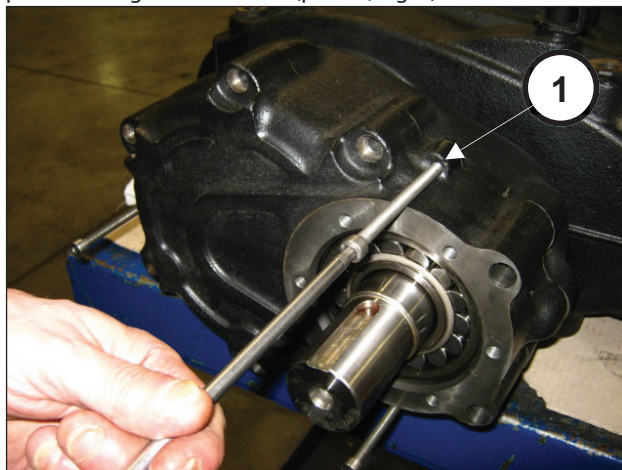
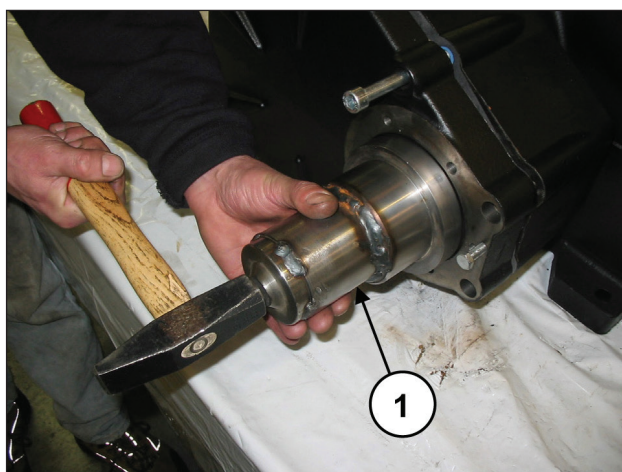

Fig. 8
Fig. 9
Screw in the 3 grub screws (pos. ①, Fig. 8) with the function of extractors and at the same time, using the special tool (code 27887000), beat on it so that the bearing remains on the pinion during cover removal (pos. ①, Fig. 9).